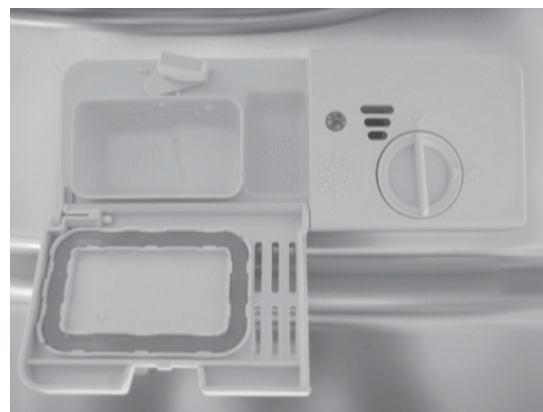

Figure 14: The open dishwasher detergent dispenser.
Step 2 Add the detergent (powder or tablet) into the larger cavity (labelled A in figure 14 below) which is used for the main wash cycle. For more heavily soiled wash loads, you can also add some detergent into the smaller cavity (labelled B in figure 14 below) which is used for the pre-wash cycle.